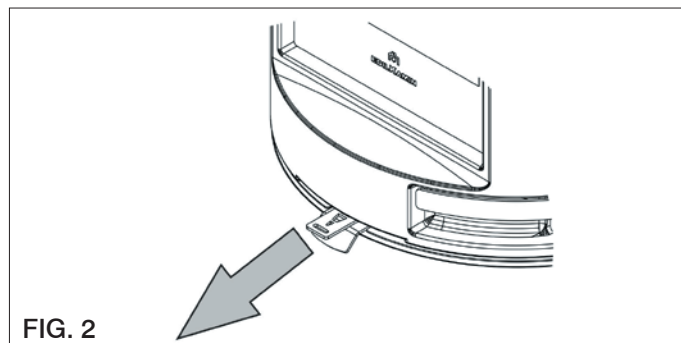

FIG. 2
- Intermediate position (Fig. 2)